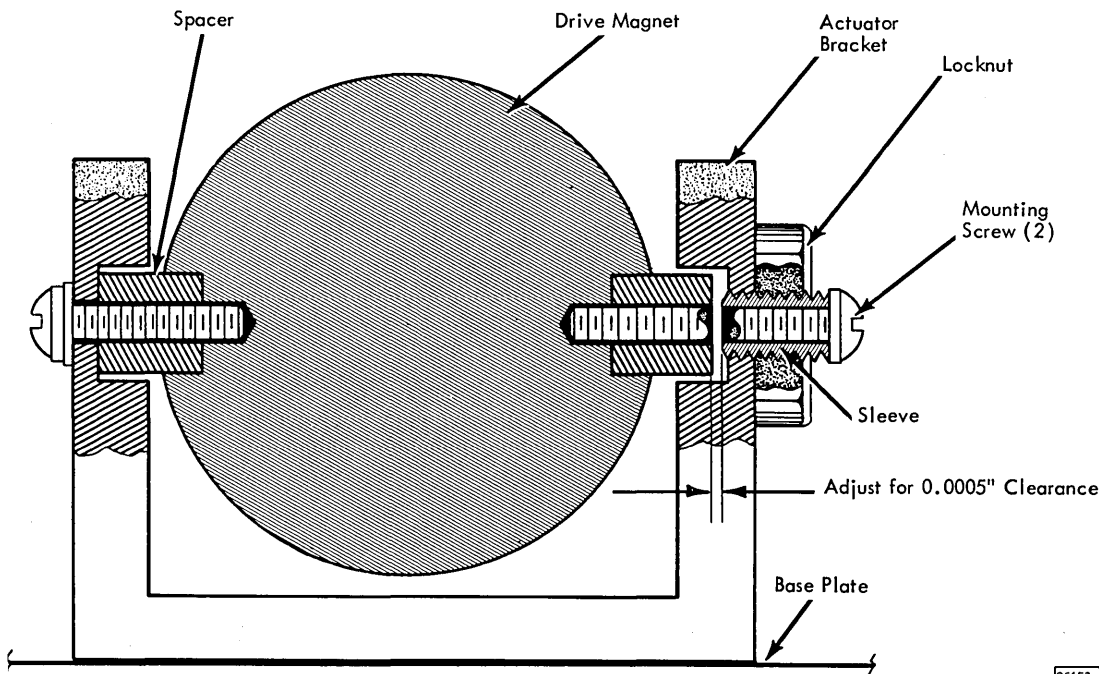

Figure 7-3. Drive Magnet Adjustment
Adjustment of the drive magnet (Figure 7-3) is to be accomplished whenever a new drive magnet is installed. This adjustment prevents binding which could cause distortion of the base and result in misalignment of the carriage.
8. Loosen # 0-80 nut (Figure 7-3) on the energized detent coil using a 3/16-inch end wrench.